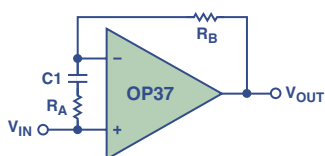

Figure 18. Unity-gain follower using an input series R-C to stabilize an amplifier that is not stable at unity-gain.
**A:** You can use such op amps for lower gains by *tricking* them. Figure 18 shows a useful approach.
In Figure 18,  $R_B$  and  $R_A$  provide enough closed-loop gain at high frequencies to stabilize the amplifier, and  $C_1$  brings it back to unity at low frequencies and dc. Calculating the values of  $R_B$  and  $R_A$  is fairly straightforward, based on the amplifier's minimum stable gain. In the case of the OP37, the amplifier needs a closed-loop gain of at least 5 to be stable, so  $R_B = 4R_A$  for  $\beta = 1/5$ . For high frequencies, where  $C_1$  behaves like a direct connection, the op amp *thinks* it's operating at a closed-loop gain of 5, and is therefore stable. At dc and low frequencies, where  $C_1$  behaves like an open circuit, there is no attenuation of negative feedback, and the circuit behaves like a unity-gain follower.